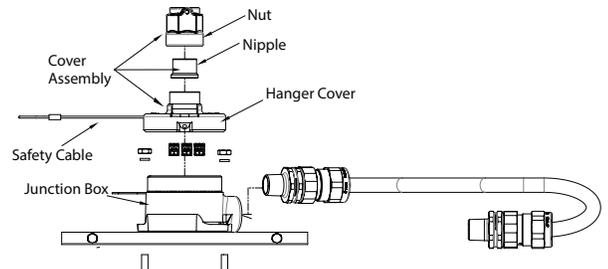

Figure 11
10. Remove the cover assembly from the junction box (see Figure 11).
14. With the nut fully tightened, screw the cover assembly onto the conduit support until the conduit and nipple are fully engaged (See Figure 11).
21. Tighten the three (3) set screws on the nut.